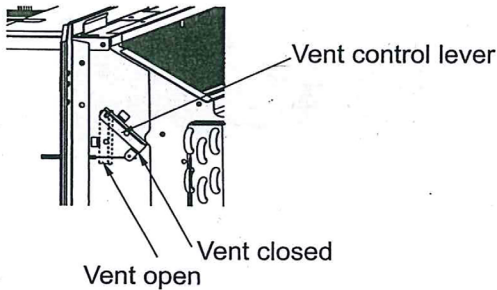

Fig.6
- Rotate the vent control lever to either open or close the vent door.(See Fig.6)
- Rotate vent control lever to open vent door. (See Fig.6)